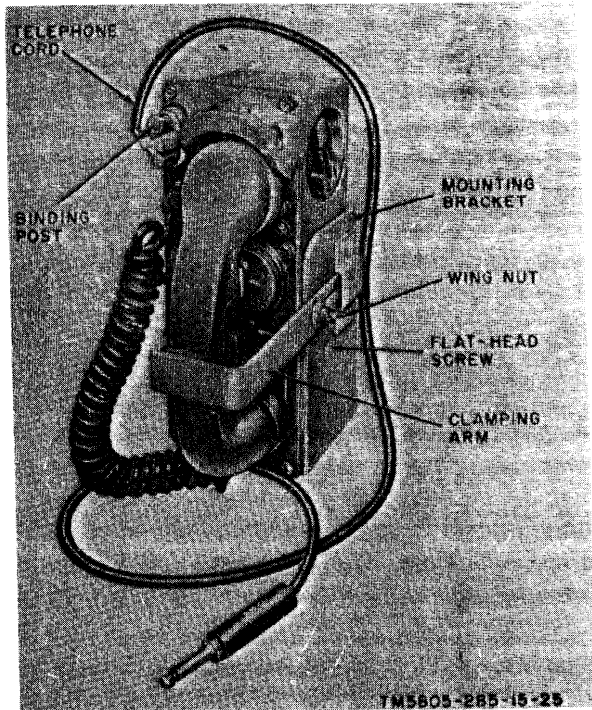

Figure 1-8. Telephone Set TA-312/PT installed in mounting bracket.
g. *Telephone Set TA-312 PT (TM 11-2155)*. A TA-312/PT (fig. 1-8 and 1-9) (less carrying case) is mounted on the curbside wall of each van and used for communication between assemblages and installations within the local area. A TA-312/PT (and buzzer button) is also located outside, next to the door, on the curbside wall of the van (fig. 1-10) for communication between personnel inside and outside the van.